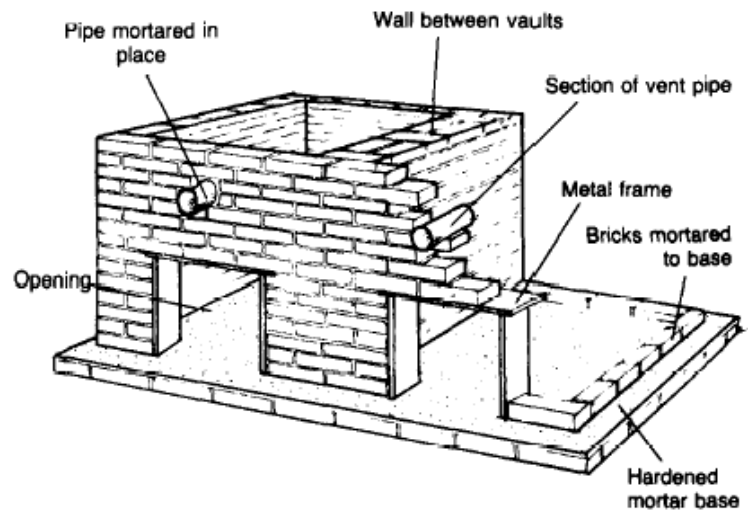

Figure 8. Brick and Mortar Vaults Under Construction
4. Remove material used to cure, and begin laying up the walls, including the wall between the vaults. Build and install frames for the rear wall openings. Rust-proof metal is the best frame material, but wood, bamboo, or other local material can be used. See figure 8.
5. When the walls are 200 to 300mm short of their designed height, mortar sections of the vent pipe in place, lay bricks around the sections, and continue laying up the walls to their designed height. See figure 8.